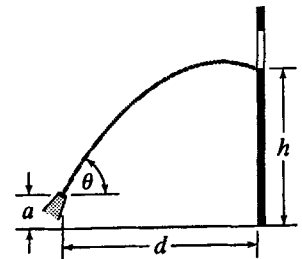

Figure X5.15.2
5.15.2 A water jet must reach the window in the wall shown in Fig. X5.15.2. Assuming a jet velocity of 25 m/s at the nozzle and neglecting air friction, find the angle (or angles) of inclination  $\theta$  which will achieve this result, given  $h = 14 \text{ m}$ ,  $d = 23 \text{ m}$ , and  $a = 2 \text{ m}$ .